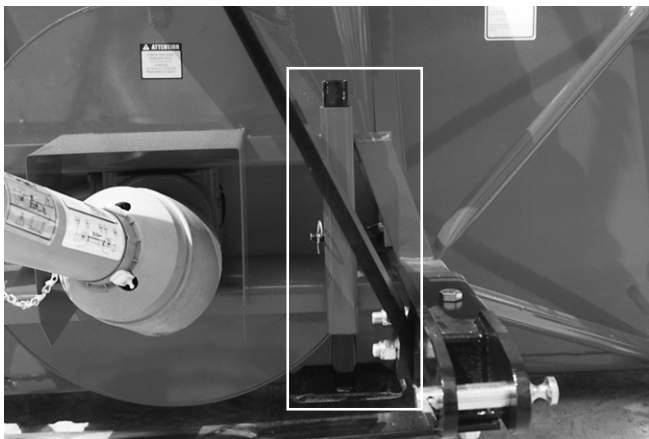

Figure 28
- 6) Following the installation of the Snowblower on the tractor, **do not forget** to lift the storage support (Fig. 28).